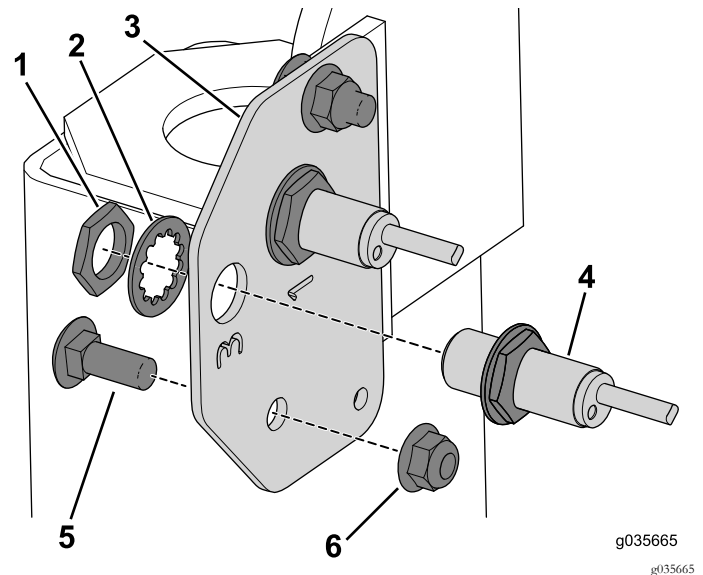

Figure 17
1. Use the 2 carriage bolts (3/8 x 1 inch) and flange nuts to secure the right sensor plate to the machine (Figure 17).
2. Use the retaining nuts and washers to secure the proximity sensors that you removed earlier to the right sensor plate (Figure 17).